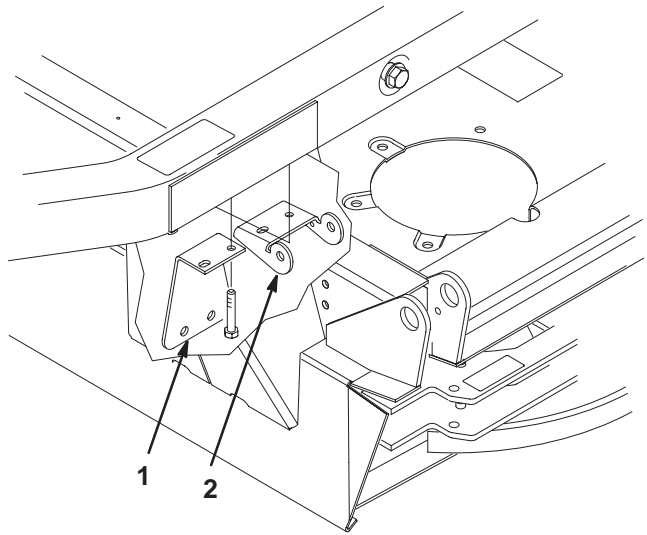

Figure 4
15. Remove the 2 screws securing the wire harness shield and cover hinge to the deck frame tube (Fig. 4). Discard the wire harness shield.